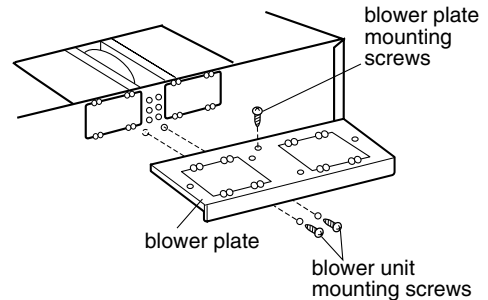

Figure 18
1. Remove two blower unit mounting screws and one or two blower plate mounting screws. Remove the blower plate from cabinet. See **Figure 18**.